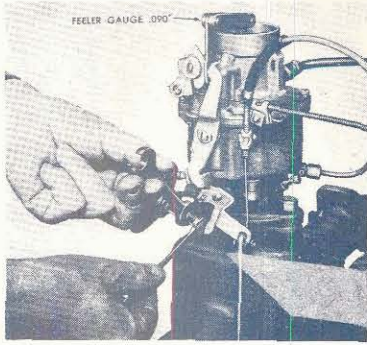

FIGURE 3
5. Shut off engine. Insert .090" feeler gauge between carburetor choke lever cam and fast idle lever. (Figure 3.)